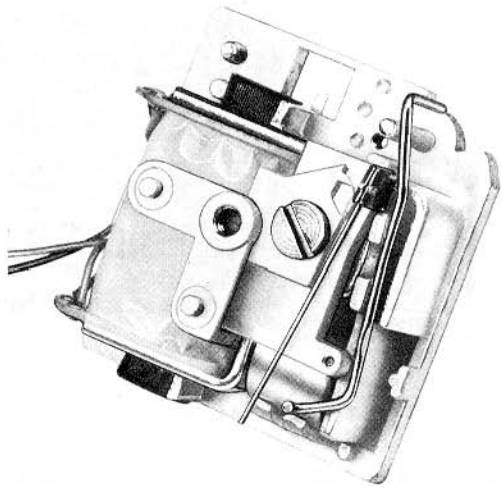

Fig. 3—9A Buzzer With Cover (64A Gong) Removed
2.08 The 9-type buzzer (Fig. 3, 4, and 5) is composed of a G1C ringer motor, P-type armature, and 64A plastic gong (cover).